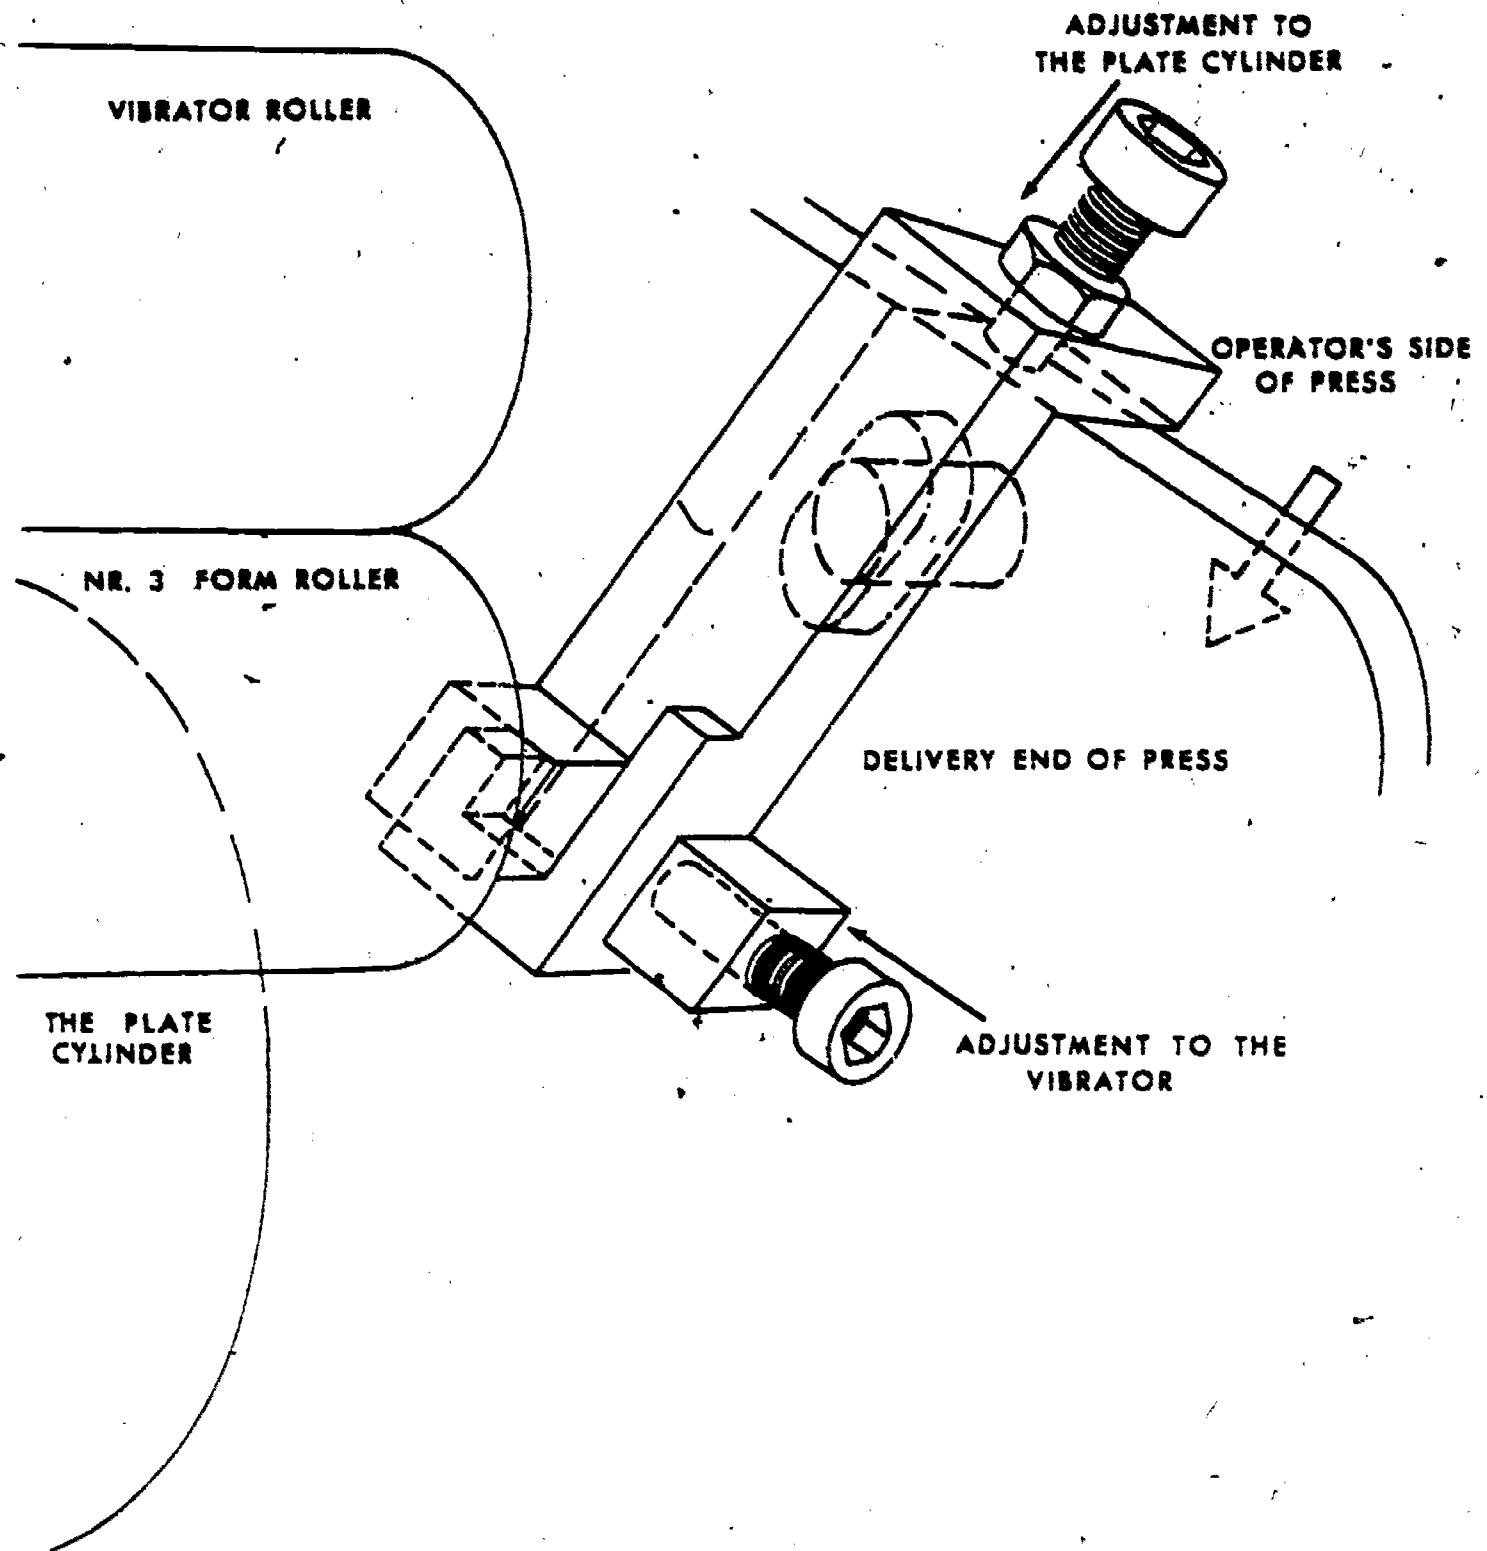

Figure 8-44. Adjustment of form roller 3-ATF Model DP.
(1) *Setting form roller 2 to vibrator roller.* Remove the rider roller, the three intermediate rollers, the two removable vibrator rollers, and form rollers 1 and 3. Replace the vibrator roller over form roller 2 and lock it down. Adjust the form roller to the vibrator roller by turning the lower allen setscrew. This screw is similar to and located just below the lower adjusting screw for form roller 3, illustrated in figure 8-44. Turning the screw in a clockwise direction moves the form roller toward the vibrator. This adjustment has no locking device. Check this adjustment with the ink motion throwoff handle in both the "up" and "down" positions.
(5) *Setting form roller 3 to vibrator roller.* Replace form roller 3 and the vibrator roller. The adjustments are the same as for the other two form rollers (fig. 8-44). Turning the lower adjusting screw in a *clockwise* direction moves the form roller toward the vibrator. Turning the screw counterclockwise moves the form roller away from the vibrator. Check this adjustment with the ink motion throwoff handle in both the "up" and "down" positions.